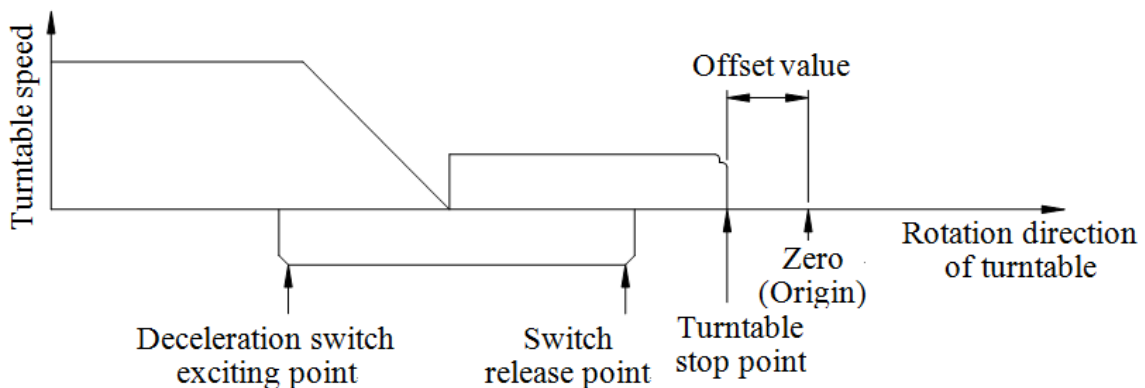

Fig 8-3
- (1).When the machine receives Zero Reset Command from NC controller, the Rotary Table will start to rotate in the specified forward direction to zero position.
- (2).When the Zero Dog touches the Proximity Switch, Rotary Table starts to decelerate for an accurate and prompt stop.(see Fig 8-3)
- (3).When the Rotary Table reduces its rotation speed, it will stop at Zero when a reference signal from the motor is received.
- (4).Perform turntable operation several times; measure errors between the actual stopping point and nominal stopping point of the Rotary Table. Enter the measurements into Zero Offset of the NC System for correction.